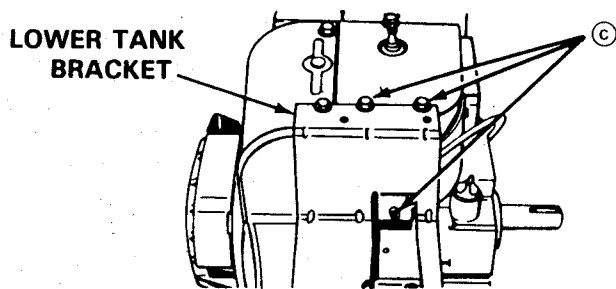

FIGURE 53
4. Remove "lower tank bracket" by removing the three (3) screws marked (C) in Figure 53.